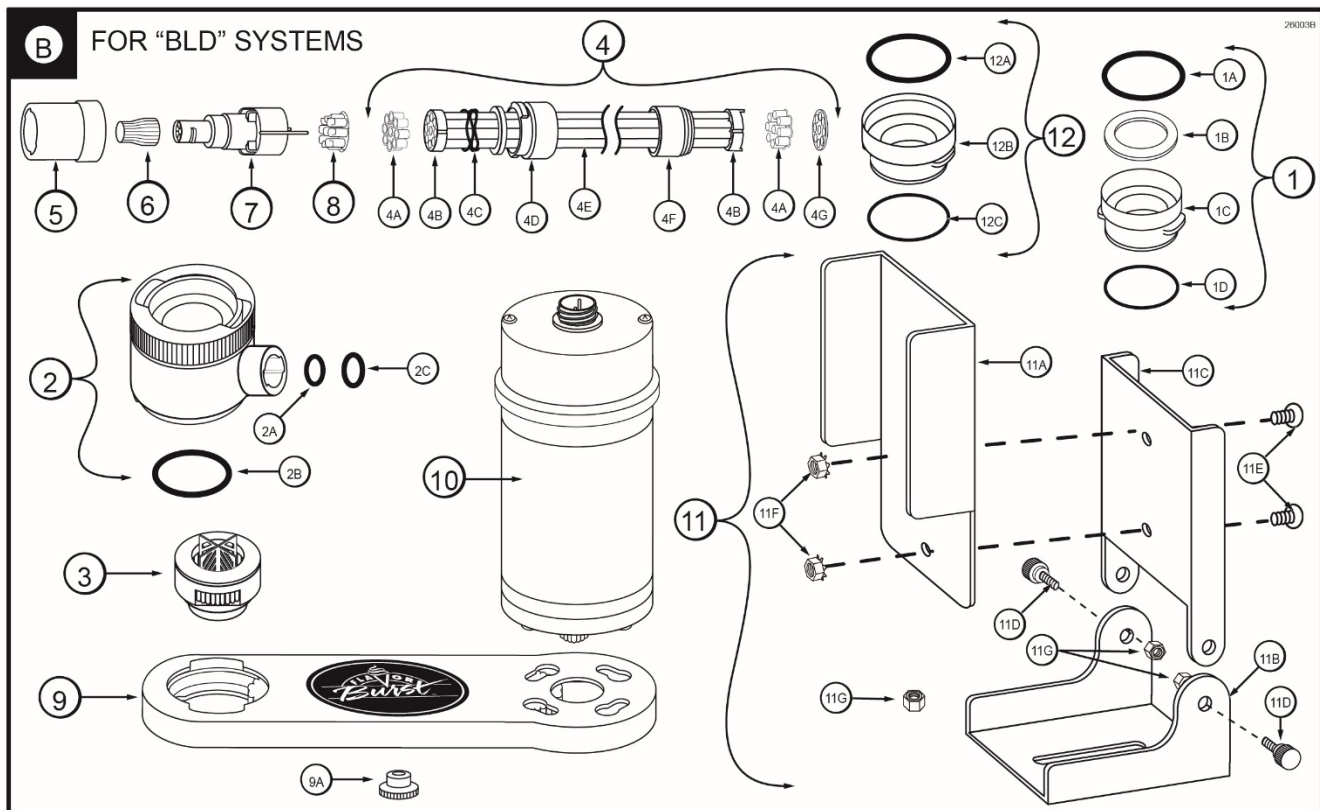

Figure 3B
**“BLD” Blending Assembly and Related Parts (See Figure 3B)**